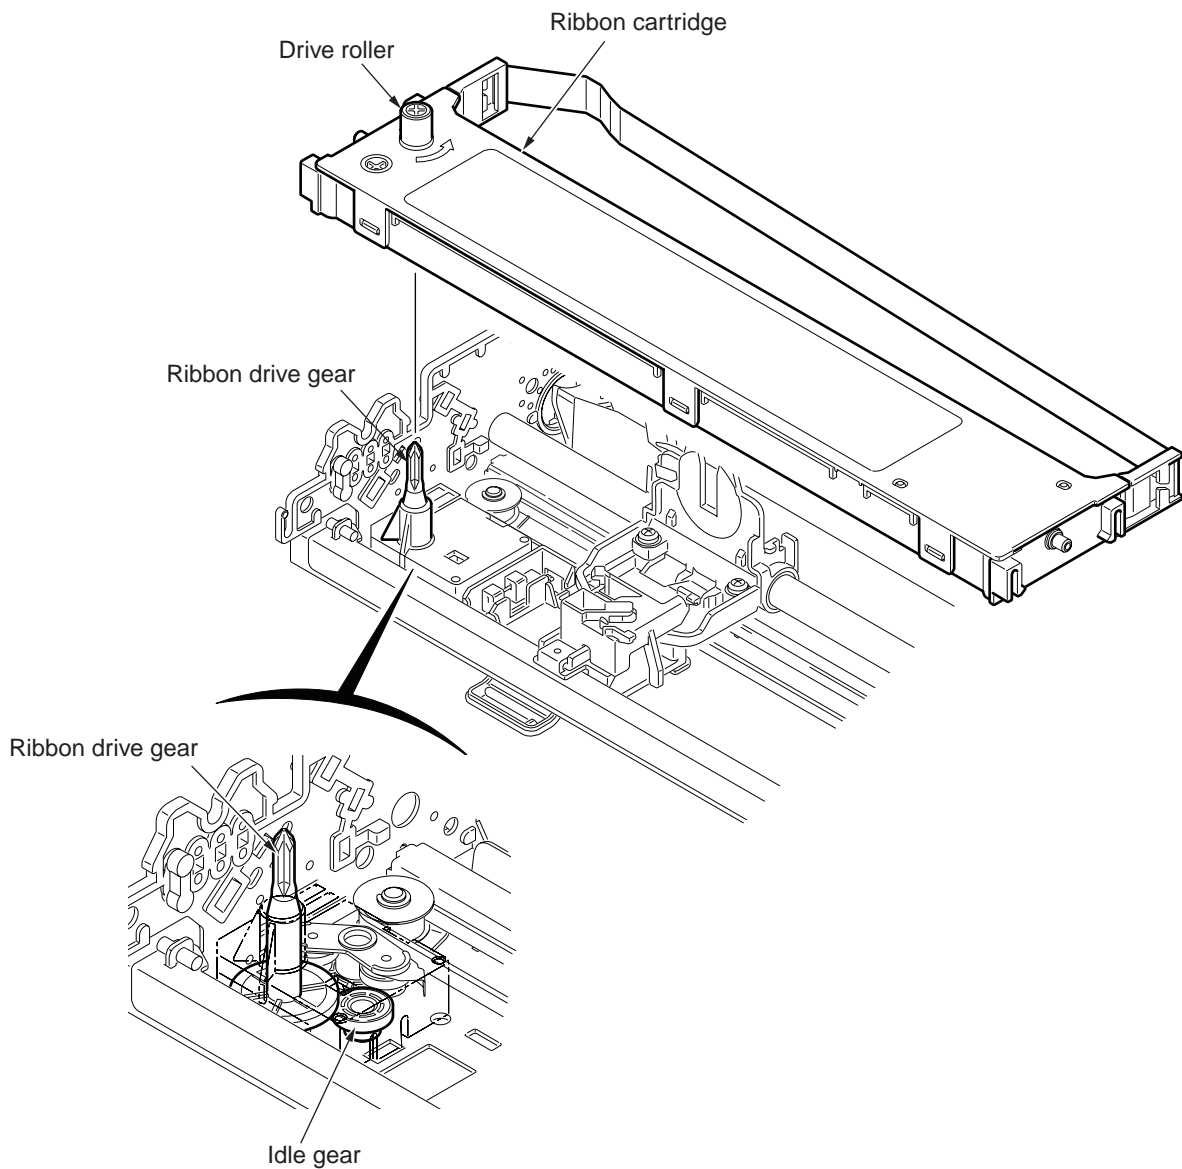

Figure 5
2.3.4 Mechanism and operation of ribbon feed (See Figure 5)